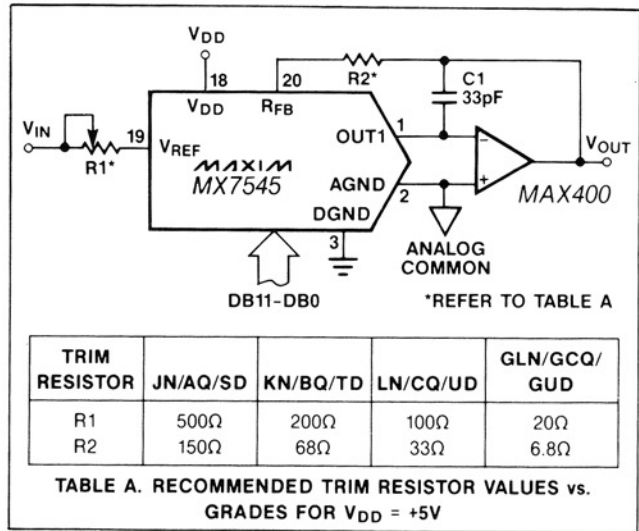
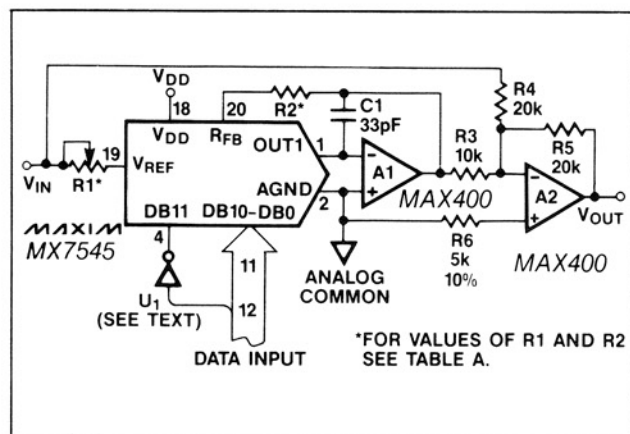
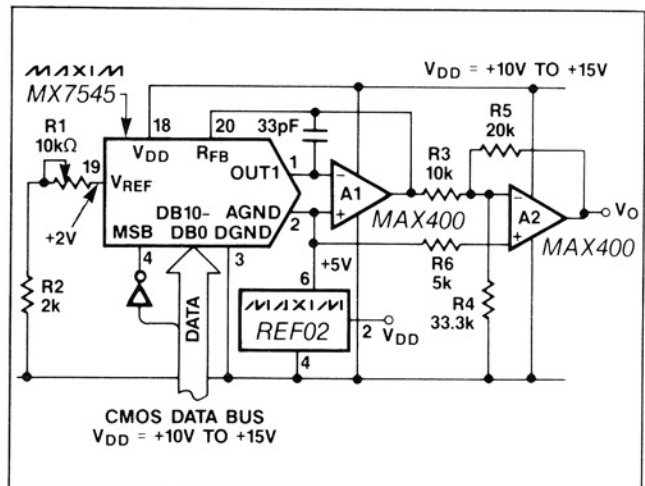

Figure 3. Unipolar Binary Operation
Figure 4. Bipolar Operation (2's Complement Code)
Figure 8. Single Supply "Bipolar" 2's Complement D/A Converter
**Note 1:** Using internal feedback resistor, RFB. DAC register loaded with 1111 1111 1111. Gain error is adjustable using the circuits of Figures 3, 4 and 8.
Either current output can be converted into a voltage externally by adding an output amplifier (Figure 3). The  $V_{REF}$  input accepts a wide range of signals including fixed and time varying voltage or current inputs. If a current source is used for the reference input, then a low temperature coefficient external resistor should be used for  $R_{FB}$  to minimize gain variation with temperature.
The most common configuration for the MX7545 is shown in Figure 3. This circuit is used for unipolar binary operation or two-quadrant multiplication. The
Table 1. Unipolar Binary Code Table for Circuit of Figure 3
In many applications the gain adjustment will not be necessary, especially when using the "G" suffix parts with guaranteed maximum  $\pm 1$  LSB gain errors. In those cases and also when the gain is trimmed at the reference source, resistors R1 and R2 in Figure 3 can be omitted. However, if the trims are desired and the DAC is operated over a wide temperature range, then low tempco ( $<300ppm/^{\circ}C$ ) resistors should be used for R1 and R2.
With the circuit configuration shown in Figure 4, the MX7545 operates in the bipolar, or 4-quadrant multiplying mode. A second amplifier and three matched resistors, R3, R4 and R5 are required. These resistors must be of the same material (preferably metal film or wire-wound) for good temperature characteristics, and they should match to 0.01% for 12-bit performance.
Table 2. 2's Complement Code Table for Circuit of Figure 4
To adjust the circuit with offset binary code, load the DAC with a code of 1000 0000 0000 and trim R1 for a 0V output. With R1 and R2 omitted, an alternative zero trim is to adjust the ratio of R3 and R4 for 0V out. Full scale can be trimmed by loading the DAC with all "zeros" or all "ones" and adjusting the amplitude of  $V_{REF}$  or varying R5 until the desired positive or negative output is obtained. In many applications the gain adjustment will not be necessary, especially when using the "G" suffix parts with guaranteed maximum  $\pm 1$  LSB gain errors. In those cases and also when the gain is trimmed at the reference source, resistors R1 and R2 in Figure 4 can be omitted. However, if the trims are desired and the DAC is operated over a wide temperature range, then low tempco ( $<300\text{ppm}/^\circ\text{C}$ ) resistors should be used for R1 and R2.
Figure 6. Differential Nonlinearity vs.  $V_{DD}$  for Figure 4 Circuit. Reference Voltage = 2.5 Volts. Shaded Area Shows Range of Values of Differential Nonlinearity that Typically Occur for L, C and U Grades.
The unipolar and bipolar circuits in Figures 3 and 4 can all be converted to voltage output mode. For example, Figure 8 shows the 2's complement bipolar circuit of Figure 4 modified to work with an output range of +2V to +8V around an offset ground potential of +5V from a single supply,  $V_{DD}$ , of +10V to 15V. The REF02 reference is used to bias the AGND at +5V. The R1 and R2 resistors form a voltage divider together
Figure 7. Differential Nonlinearity vs. Reference Voltage for Figure 4 Circuit.  $V_{DD}$  = 15 Volts. Shaded Area Shows Range of Values of Differential Nonlinearity that Typically Occur for L, C, and U Grades.